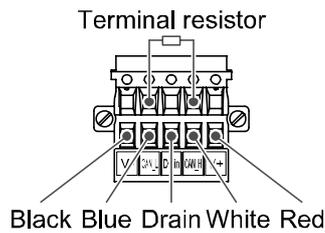

Fig. 2
- Make sure to connect "terminal resistor" between "CAN_H"- "CAN_L" to the units at the both ends of the system. Terminating resistor is $121 \Omega \pm 1\%$, 1/4 W (Refer to Fig. 2).